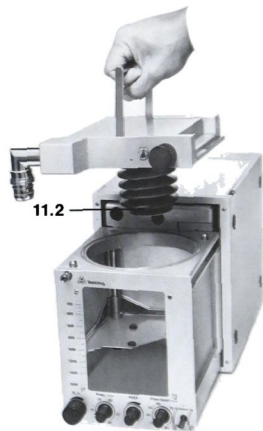

Fig. 4 Ventilog with bellows K (for children)
- 11.2 Bellows K for the patient system for children's ventilation (Fig. 4)